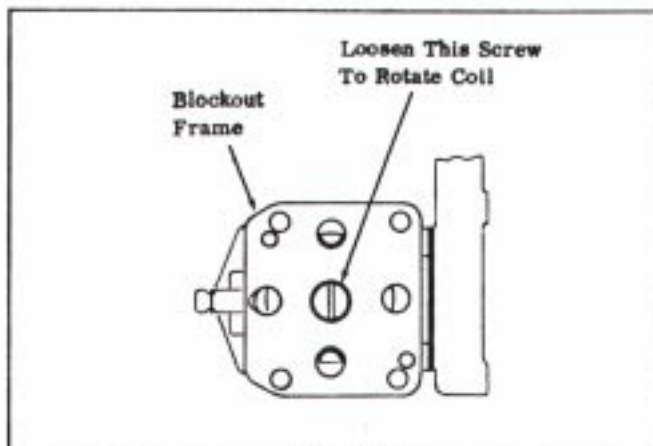

FIGURE 3
1. Loosen the Screw which attaches the replacement Coin Blockout Assembly Coil, part number 5230-150, to its Blockout Frame. See Figure 3.